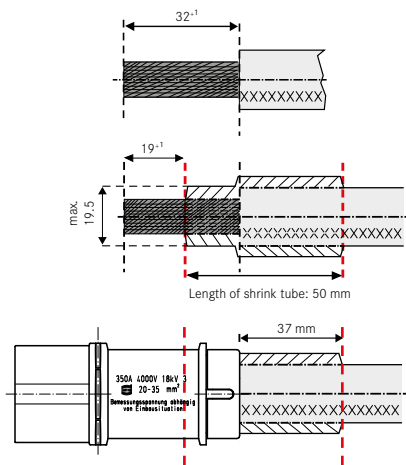
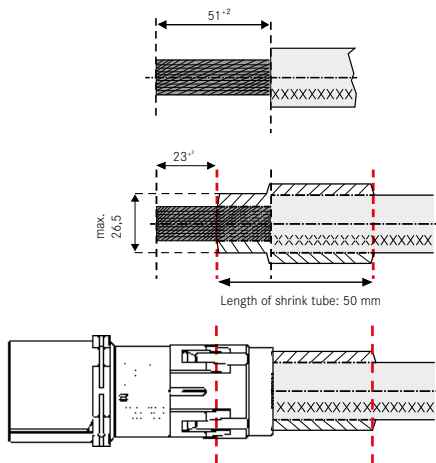

Figure IV-11: Shrink tube assembly over the cable for Han® HC Modular 350
Figure IV-12: Shrink tube assembly over the cable for Han® HC Modular 650
- ① Strip the cable according to Figure IV-11 and Figure IV-12.
- ② The following points must be observed when applying the shrink tube directly on the cable:
- ② Terminate the cable to the torque specified for the wire gauge (see Table IV-2, p. 32):